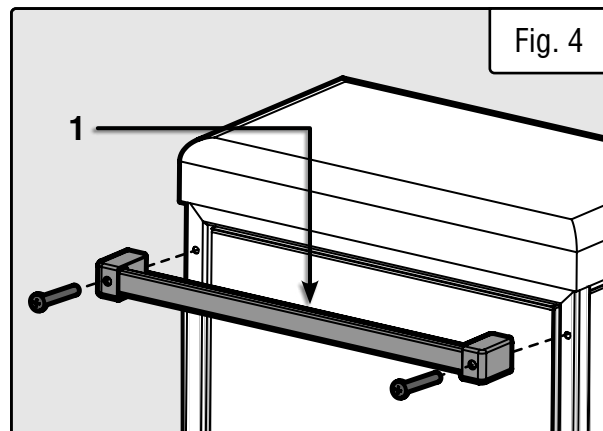
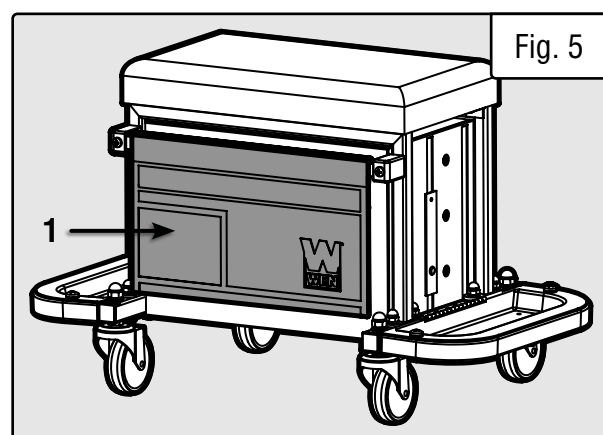

Fig. 4
Fig. 5
2. Align the holes on the tool pouch holder (Fig. 4 - 1) with the holes on the rear of the tool chest.
4. Fold the top of the pouch (Fig. 5 - 1) into the slot behind the tool pouch holder (Fig. 4 - 1).